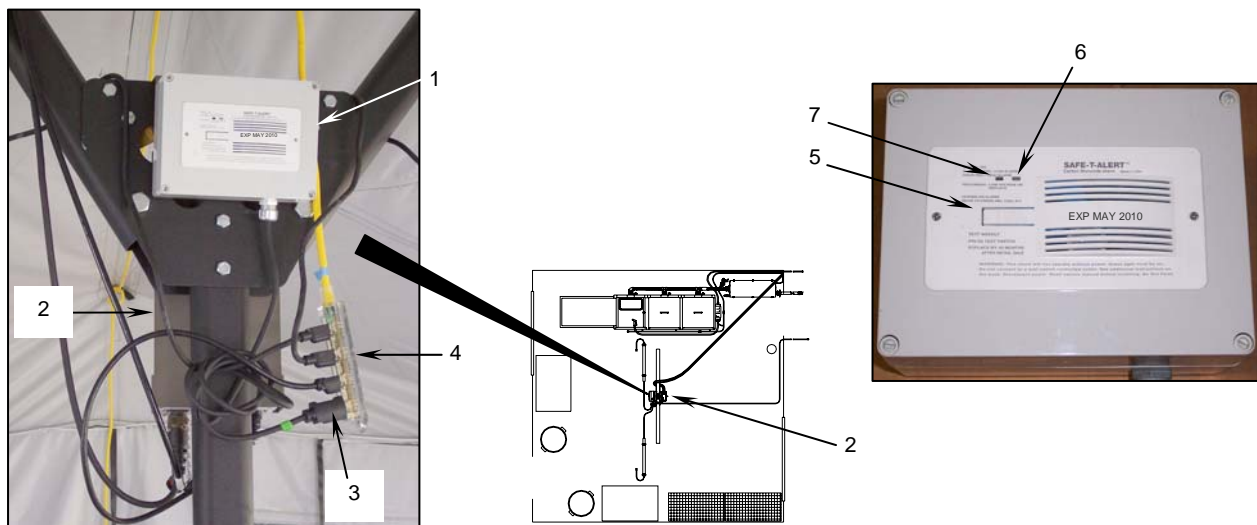

Figure 2. Installing the CO Monitor.
7. Test the carbon monoxide (CO) monitor as follows:
- a. Hang the CO monitor (**Figure 2, Item 1**) from the center pole of the tent opposite the power converter (**Figure 2, Item 2**).
- b. Plug the CO monitor power cord (**Figure 2, Item 3**) into an outlet on the end of the 100-ft extension cord (**Figure 2, Item 4**).
- c. Test the CO monitor by pressing the TEST/RESET (**Figure 2, Item 5**) button. The indicator light (**Figure 2, Item 6**) should change from green to red (**Figure 2, Item 7**) and the alarm horn (**Figure 2, Item 7**) should sound. If the test fails, troubleshoot or replace the alarm.